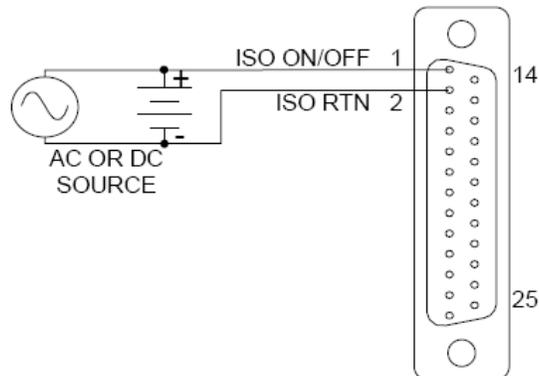
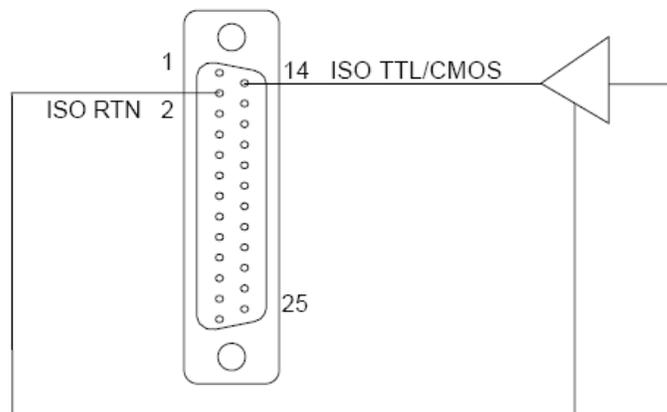

FIGURE 3.8 REMOTE OUTPUT ON/OFF USING ISOLATED AC OR DC VOLTAGE SOURCE
FIGURE 3.9 REMOTE OUTPUT ON/OFF USING ISOLATED TTL/CMOS VOLTAGE SUPPLY
2. Remote output on/off control may be accomplished by an external 12 to 240 VAC or 6 to 120 VDC or TTL/CMOS source. Application of AC/DC or high state TTL/CMOS voltage will turn on the power supply. See Figure 3-8 and Figure 3-9 for connection requirements.